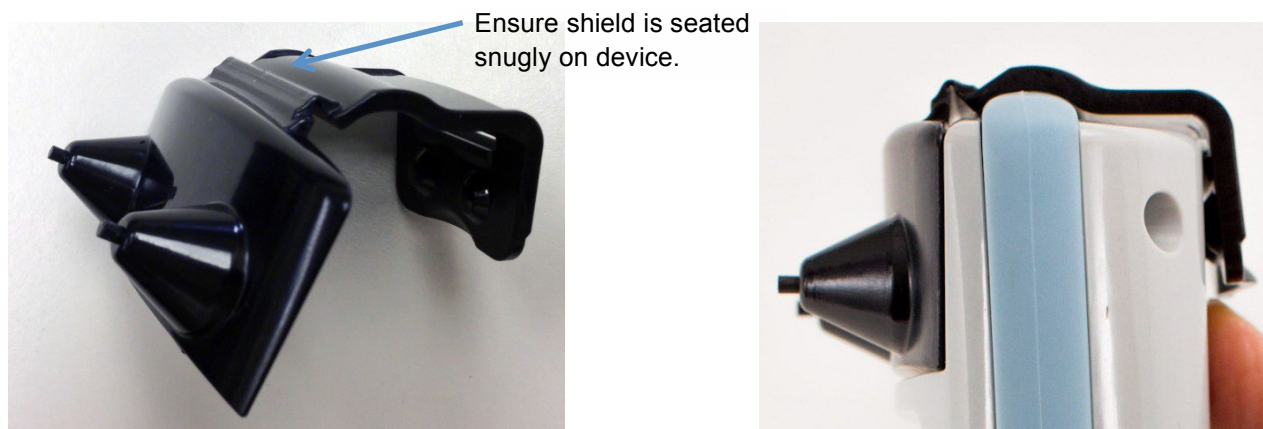

Figure 5-3: Attaching the Disposable Fiber Optic Shield
- Attach the Disposable Shield to the Infrascanner as shown in Figure 5-3. Place the fibers over the optical towers and push firmly at the top/back of the disposable, until you feel the disposable snap onto the Infrascanner. This turns on the Infrascanner.